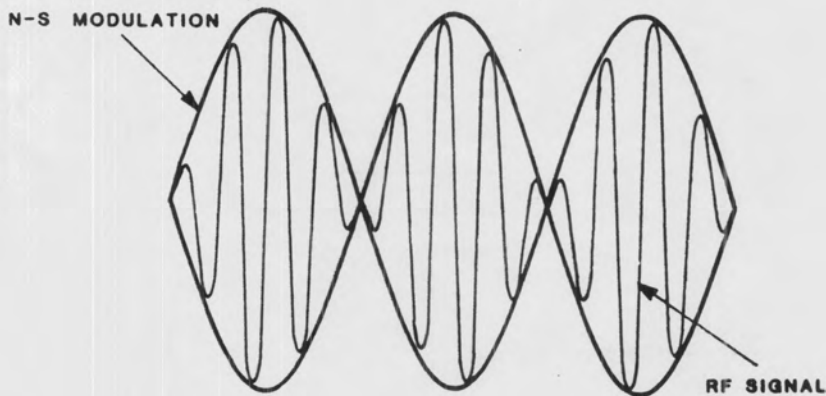
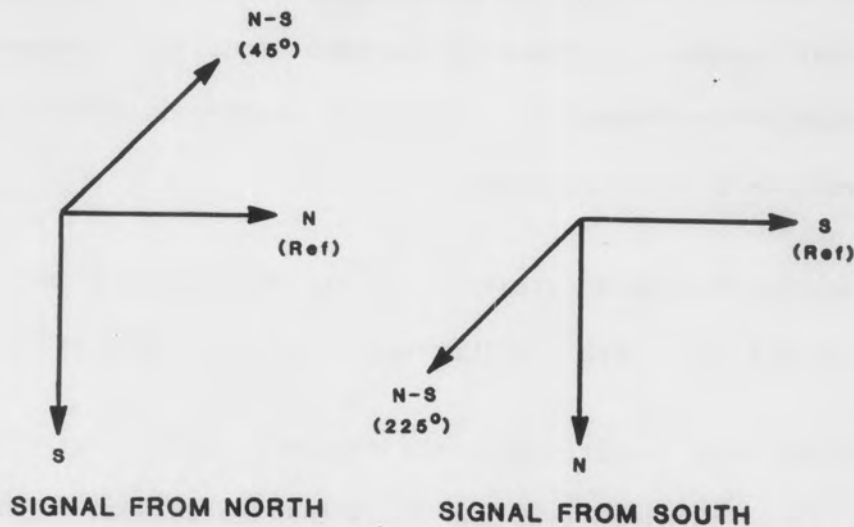
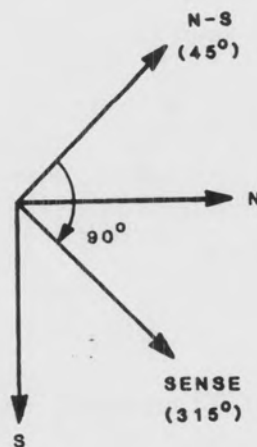

Figure 4-3. ROTATING H-ADCOCK RF OUTPUT
Figure 4-4. VECTOR RELATIONSHIP WHEN SIGNAL IS FROM NORTH OR SOUTH
Figure 4-5. VECTOR RELATIONSHIPS WITH ADDITION OF SENSE ELEMENT
Figure 4-3 illustrates the output waveform under such circumstances.
Note the RF phase reversal that occurs at each minimum in Figure 3. This effect is most easily explained by the vector diagrams in Figure 4-4.
Figure 4-4 assumes the elements are in line with the signal source, the "north" element closest to the signal source, and with a quarter-wavelength spacing between the two elements. In this instance, the N-S difference component leads the north vector by 45 degrees. If the H-Adcock now rotates 180 degrees so that the "south" element is closest to the signal source, the vector diagram changes. In this case, the N-S vector now leads the reference vector (the south vector in this case) by 225 degrees, and is therefore 180 degrees out of phase with the N-S vector. This accounts for the RF phase reversal at each minimum as shown in Figure 4-3. This phase reversal is very important, as it ultimately permits resolution of any 180 degree bearing ambiguity.
Examination of the waveform of Figure 4-3 reveals that it is actually a double sideband (DSB) suppressed carrier, amplitude modulated signal, identical to that which would be obtained in a balanced modulator with the carrier modulated at a rate equal to the rotational frequency of the H-Adcock. Given this fact, we can then say that the RF carrier from the
Next, if we add a vertical omnidirectional sense element at a point midway between the opposing H-Adcock elements, another vector (representing the output of this element) is created that is mid-phase between the N and S vectors of Figure 4-4. See Figure 4-5.
where C is the peak amplitude of the sense signal. That this sense signal is a cosine function may be seen by the 90 degrees offset between the sense and N-S signals in Figure 4-5. Next, if we retard the sense signal by 90 degrees (using a phasing line as is done in existing OAR single-channel
Suppose now that the azimuth of the received signal (or the antenna orientation) changes by 180 degrees. This results in a phase reversal of the N-S output as was shown in the vector diagrams of figure 4-4, while the phase of the sense signal remains unchanged. This N-S phase reversal is accommodated mathematically by changing the sign of (1) which results in a sign change (phase reversal) of the sidebands in the summing junction output (synthetic AM) signal of (4). Carrying this through the receiver, the new expression for the output of the AM demodulator becomes: